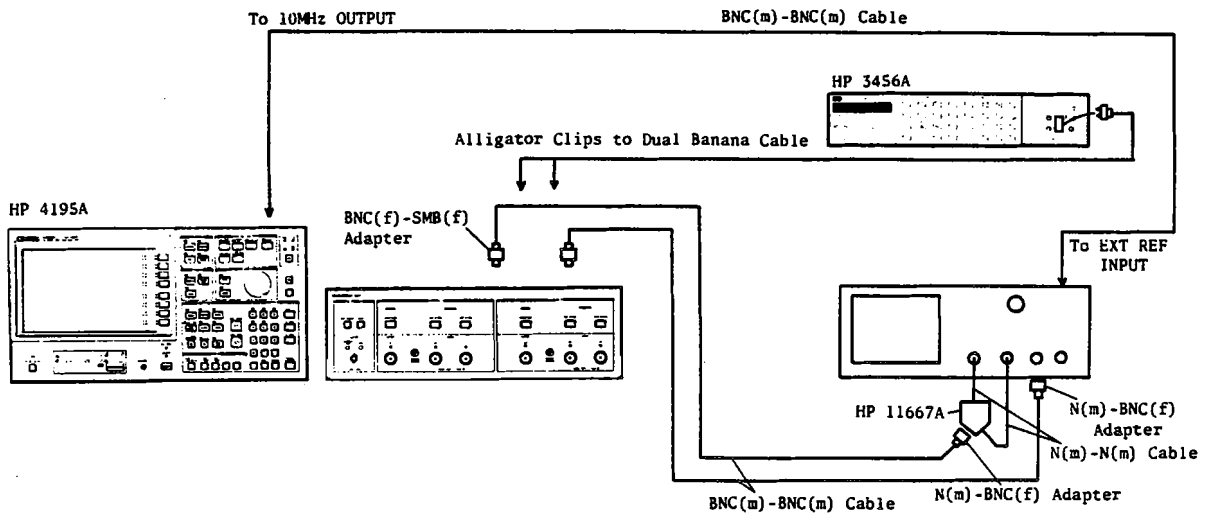

Figure A-3. Source Output Filter Adjustment Setup
1. Position the HP 4195A as shown in Figure A-3.
2. Connect the Power Splitter to the Network Analyzer as shown in Figure A-3.
1. Position the HP 4195A as shown in Figure A-3, paragraph 3-21-1.
2. Connect the Power Splitter to the Network Analyzer as shown in Figure A-3, paragraph 3-21-1.